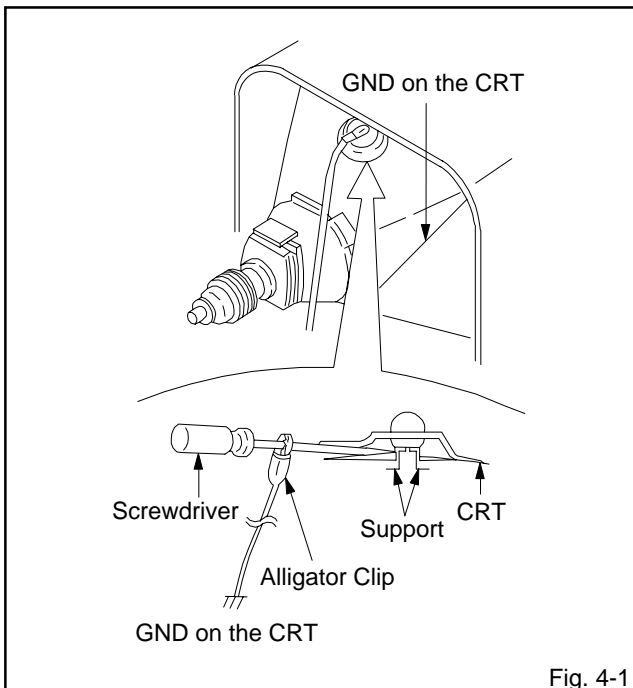

Fig. 4-1
1. Follow the steps as follows to discharge the Anode Cap. **(Refer to Fig. 4-1.)**